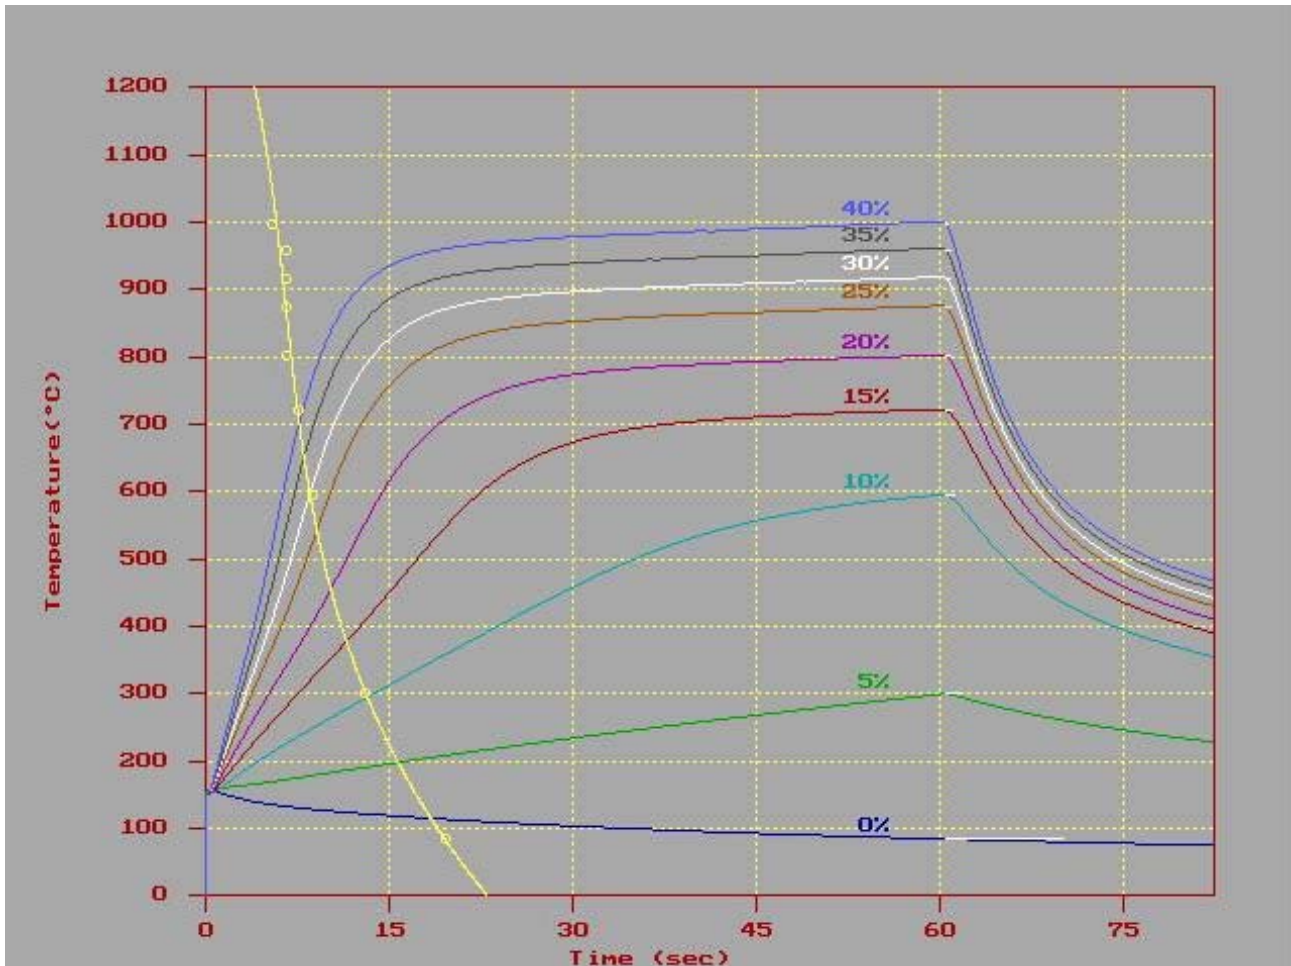

Figure 3-24. Historical Lamp Calibration Curve
3. The *Historical Lamp Calibration File Curves* for that file will appear (see Figures 3-24.)